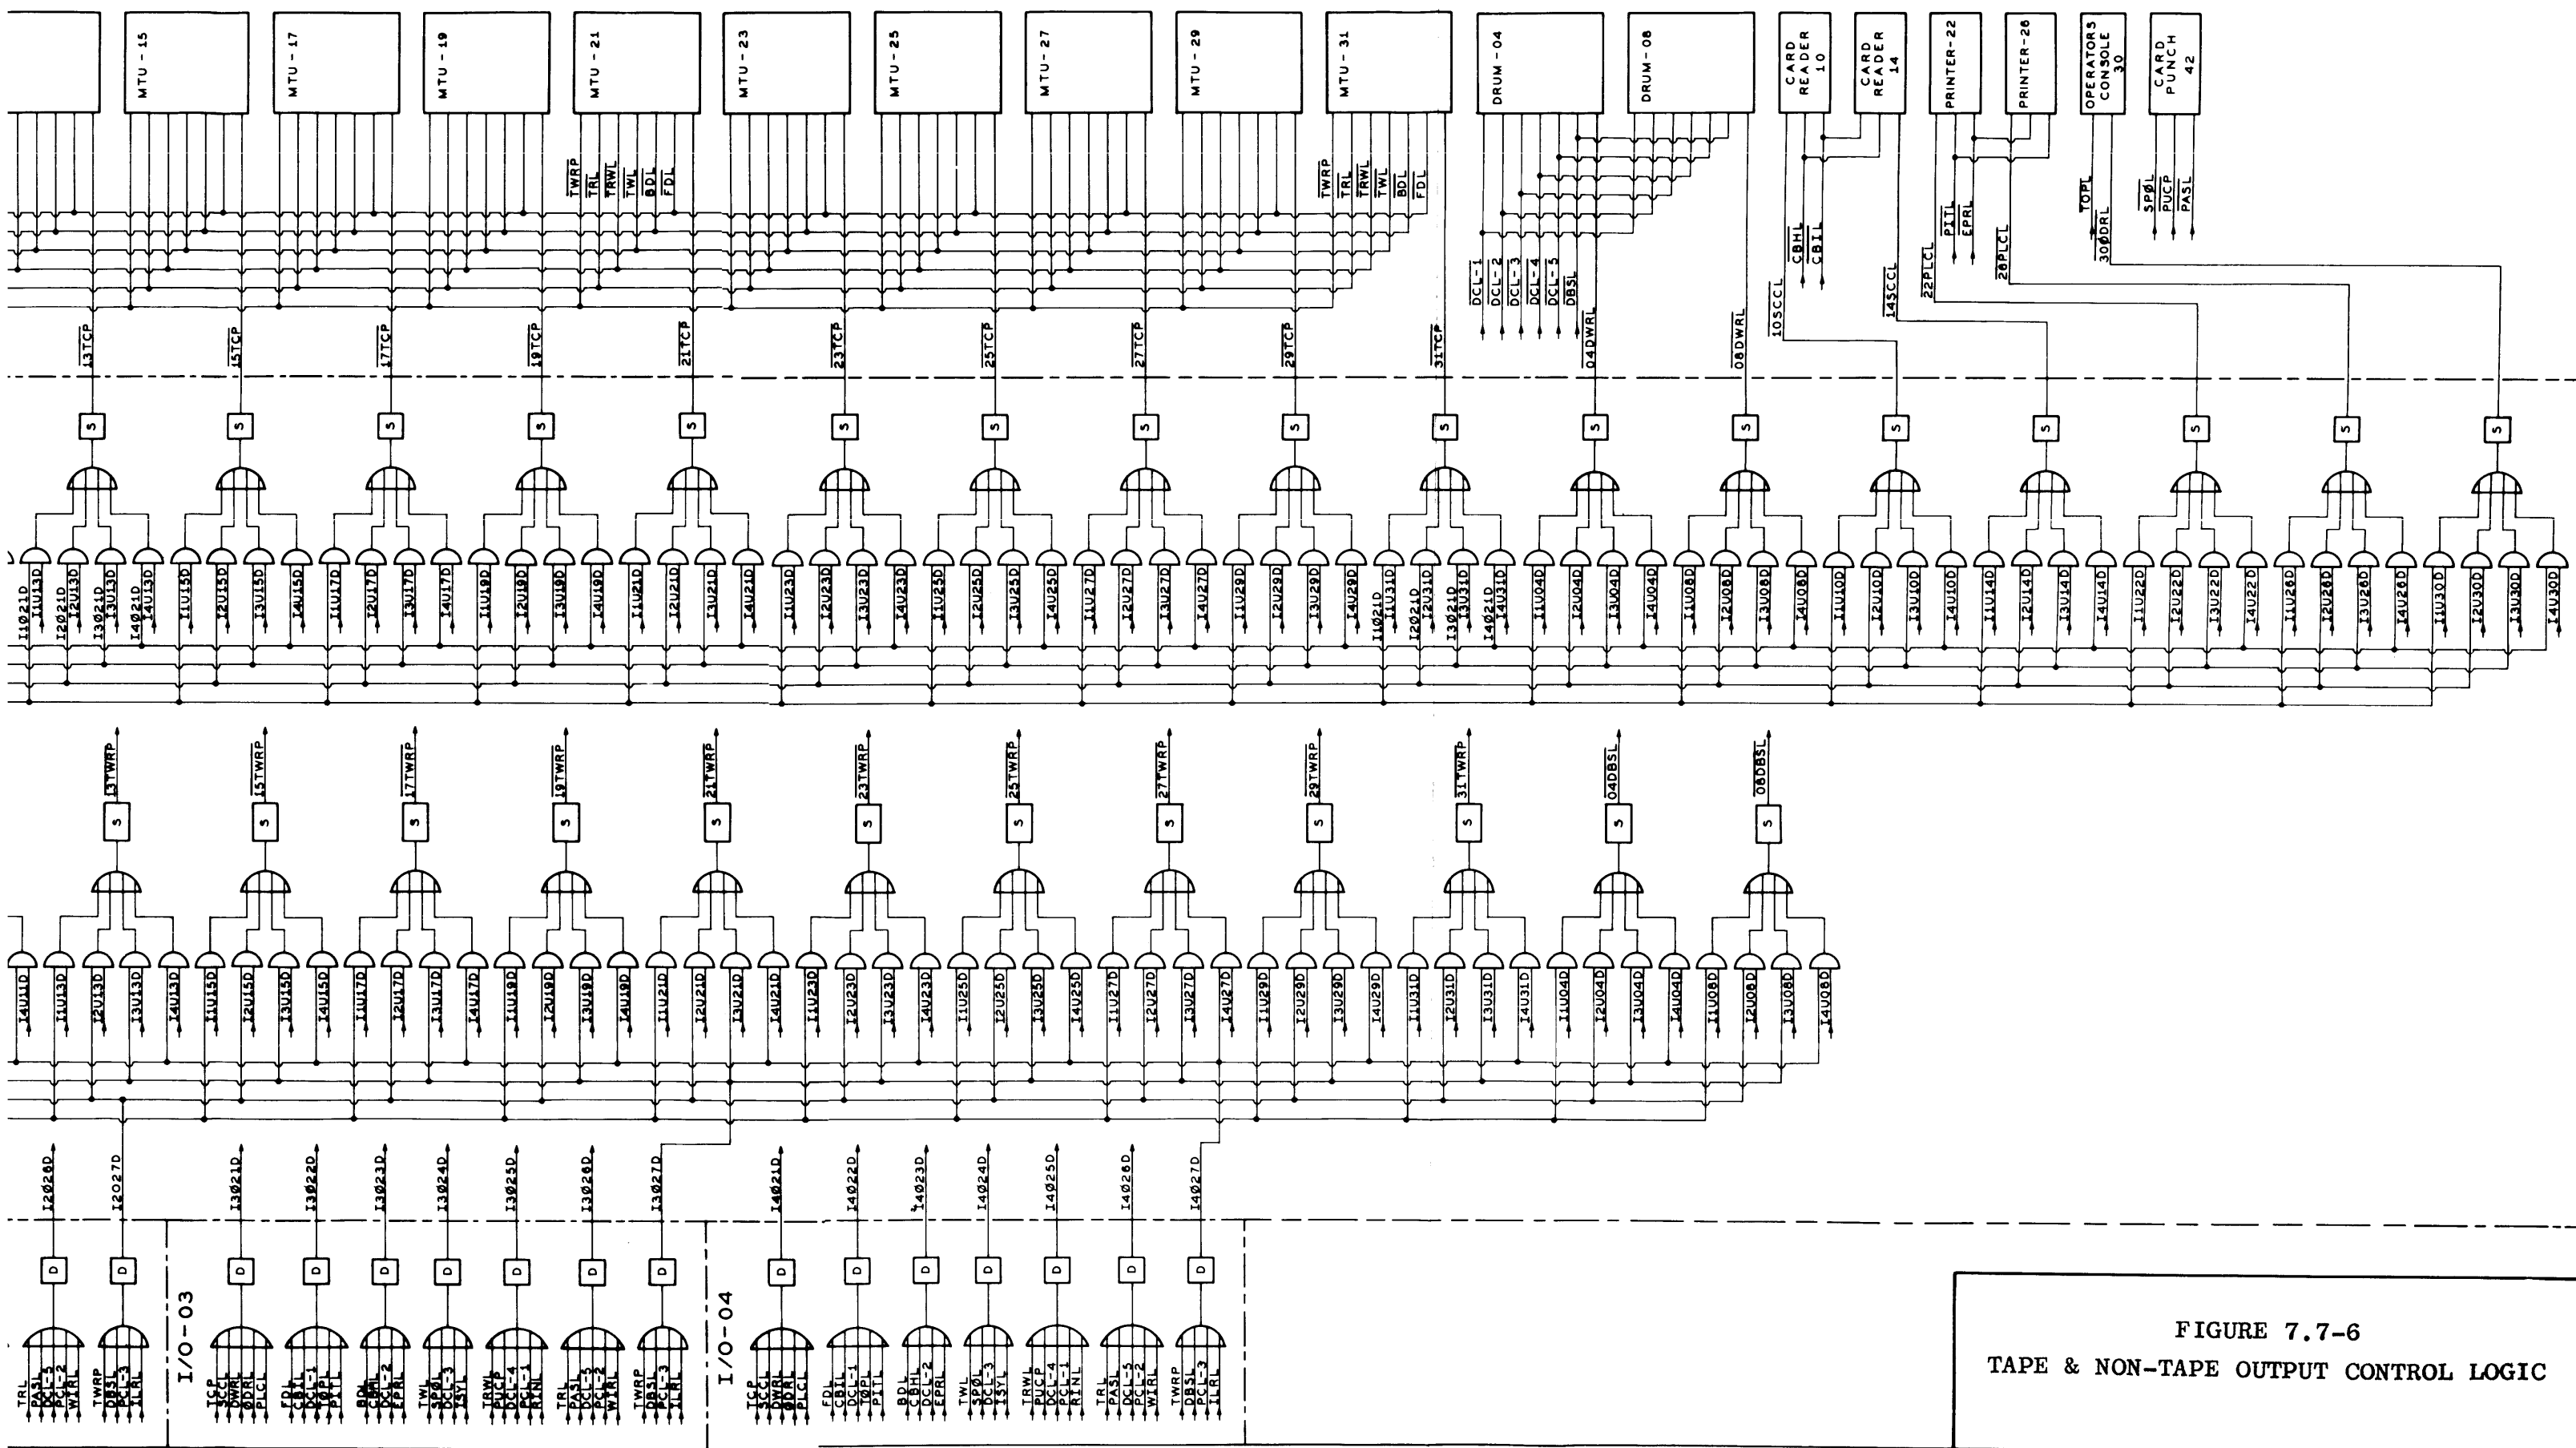

FIGURE 7.7-6
Figure 7.7-6 illustrates the seven (7) Output Control Lines originating in the I/O Channel. They are time shared with all Peripheral Units.